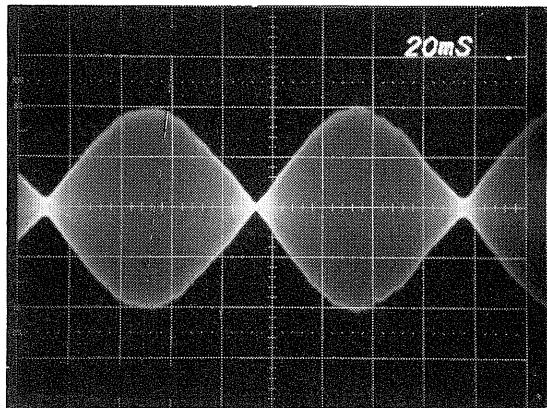

FIGURE 9 HEAD RADIAL ALIGNMENT
e. The two lobes must be within 70% amplitude of each other. If the lobes do not fall within the specification, continue on with the procedure. Reference Figure 9.
- h. When the lobes are of equal amplitude, tighten the motor clamp mounting screws. Reference Figure 9.